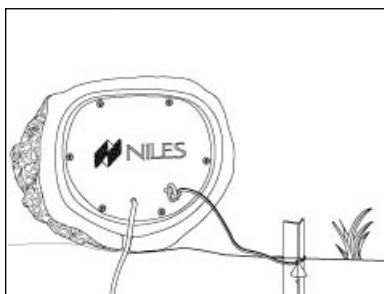

Figure 13 Security Stake
6. Pick a spot in the ground which the loudspeaker will cover and drive the security stake all the way into the ground until the cable holder is completely under the surface of the ground, as shown in **Figure 13**.